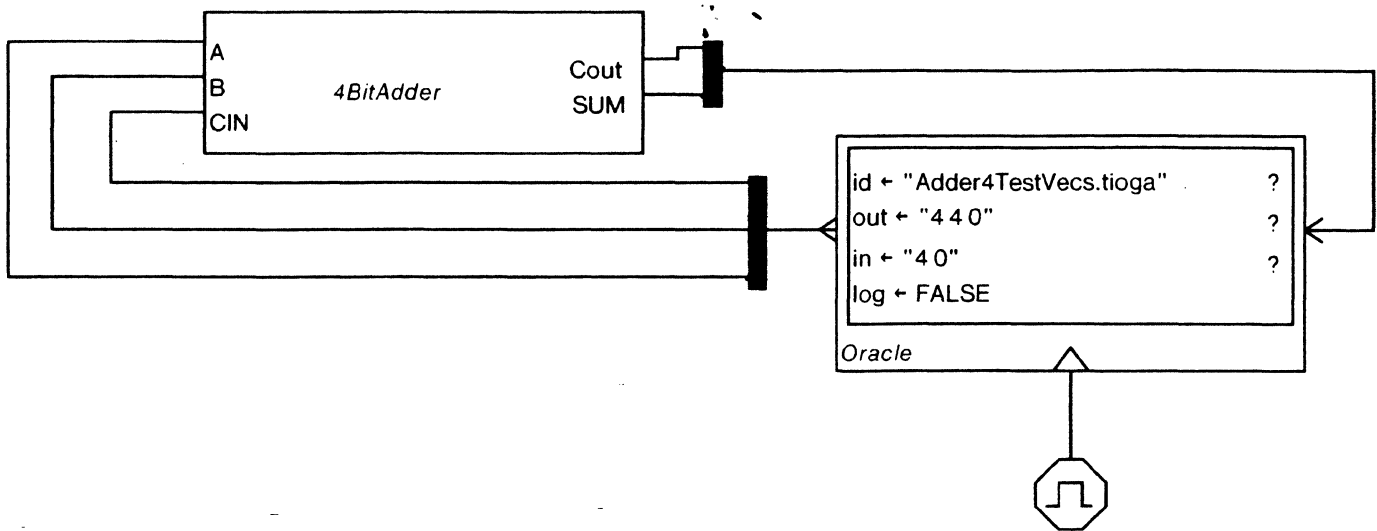

Figure 11: Using the Oracle to provide test vectors to Rosemary.
4. Using Figure 11 as a model, get a composer of size 3 by calling the PatchWork Generator (PMiddleMouseButton). Connect A, B, and CIN to the left side of the Oracle (the output side). Get a composer of size 2 and connect Cout and SUM to connect the right side of the Oracle (the input side). Connect a roseClock.icon to the bottom of the Oracle.